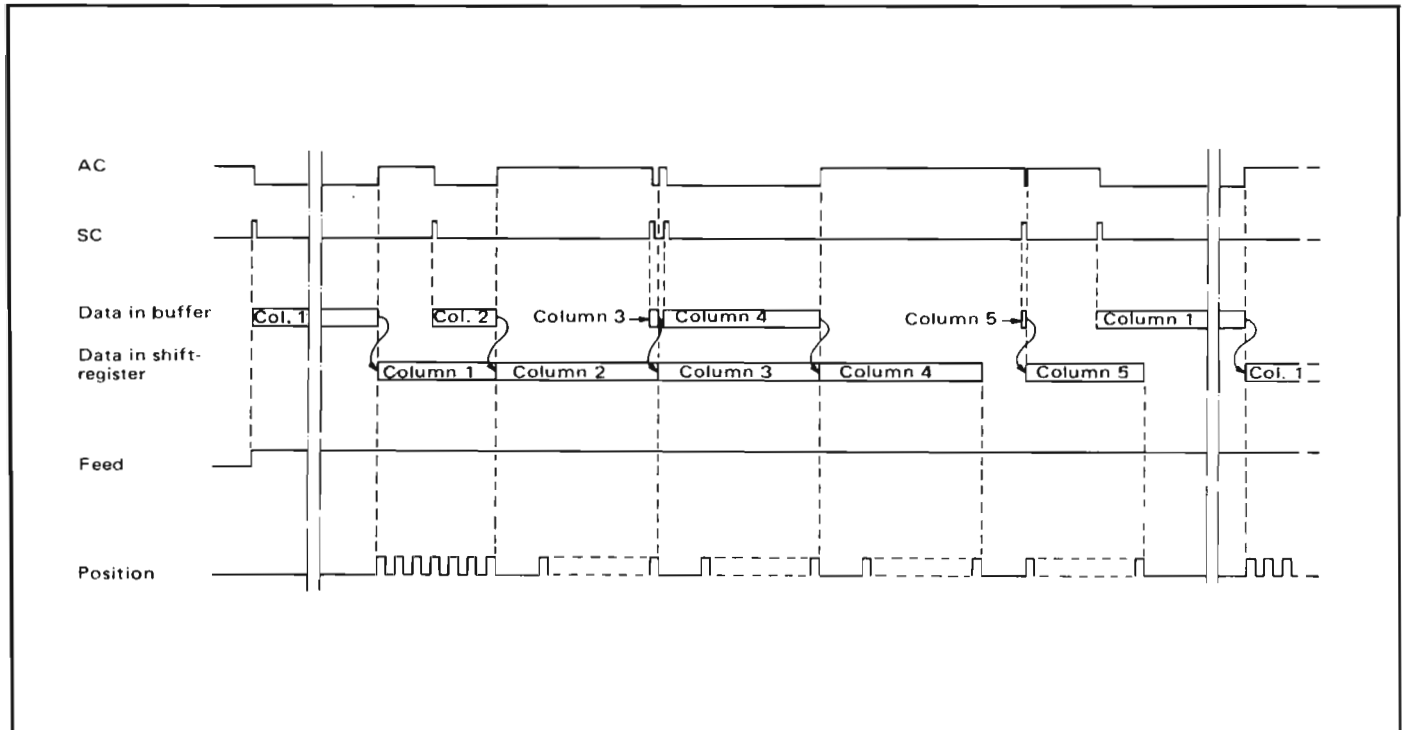
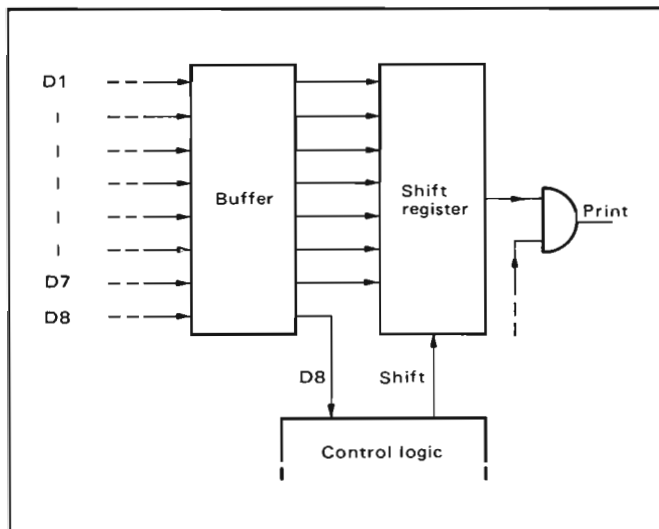

Fig. 9 Electrical operation (Facit 4552/02)
Fig. 10 Control circuits without character generator
Only bipolar integrated circuits are used in this variant. Operation differs from that previously described in the following respects (Fig. 9 and Fig. 10):
- Characters are received for one column at a time. Seven channels designated D1 through D7 are used. Two columns can simultaneously be stored in the control circuits, see Fig. 9.